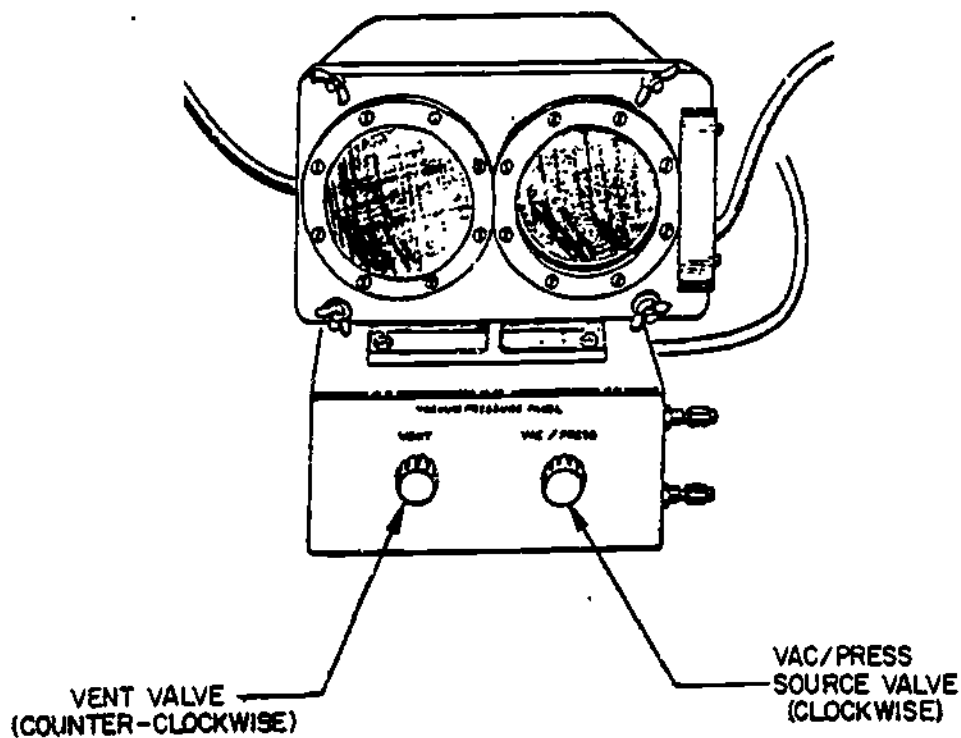

Figure 4.
c. Open the vacuum chamber door approximately one inch. Open the "vent" valve at least four turns counterclockwise. Close the "vac/press" source valve by rotating it to a fully clockwise position, see figure 4.